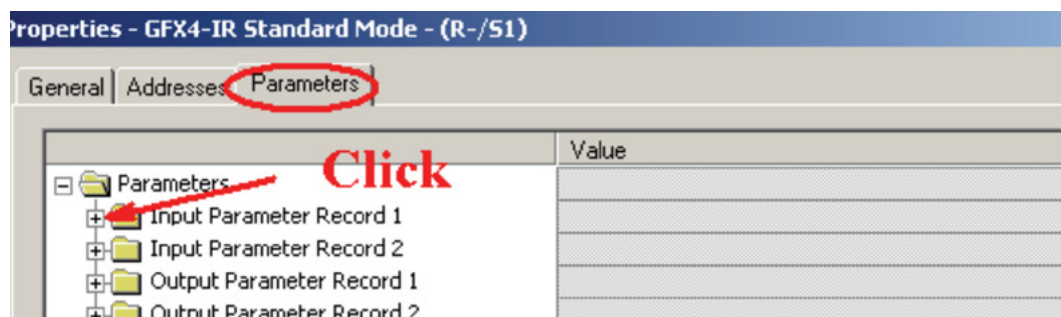

Figure 16
You can check/change the parameters of the process I/O variables (Figure 16)
- Fault Mode (Fig.16) : if Profinet communication fails, you may set the modules as follows